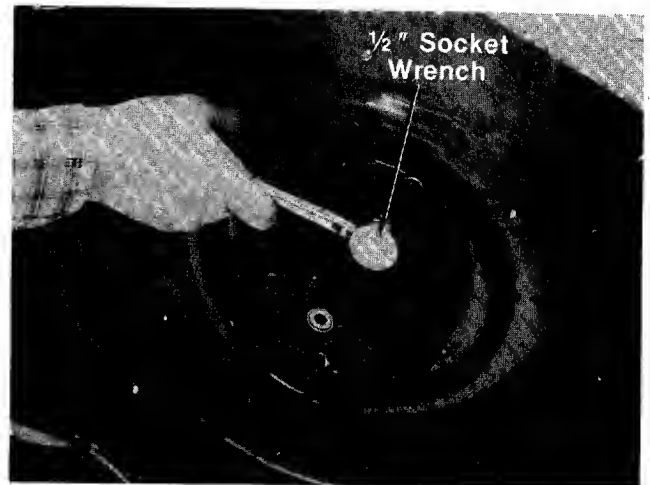

FIGURE 17.
9. Support the engine with one hand. Remove the three self-tapping screws which secure the deck and blade brake/clutch to the engine. A 1/2" socket wrench is required. See figure 17.